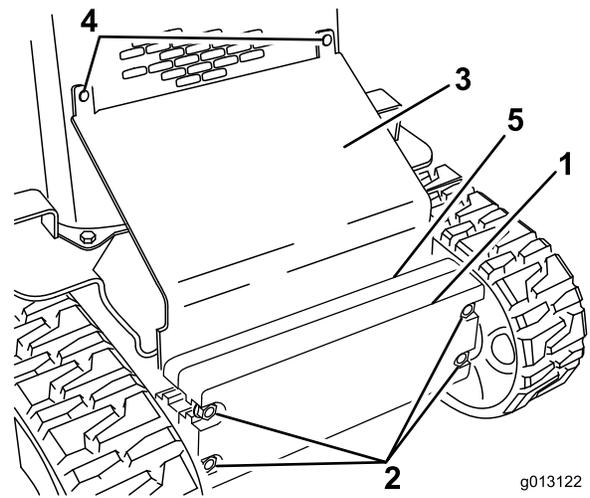

Figure 29
2. Loosen the bolts securing the weights (Figure 29).
3. Remove the carriage bolts and nuts securing the sloped plate (Figure 29).
10. Slide the sloped plate between the frame and the weights and secure it to the front screen grill using the carriage bolts and nuts removed previously (Figure 29).
11. Tighten the bolts securing the front weights (Figure 29).